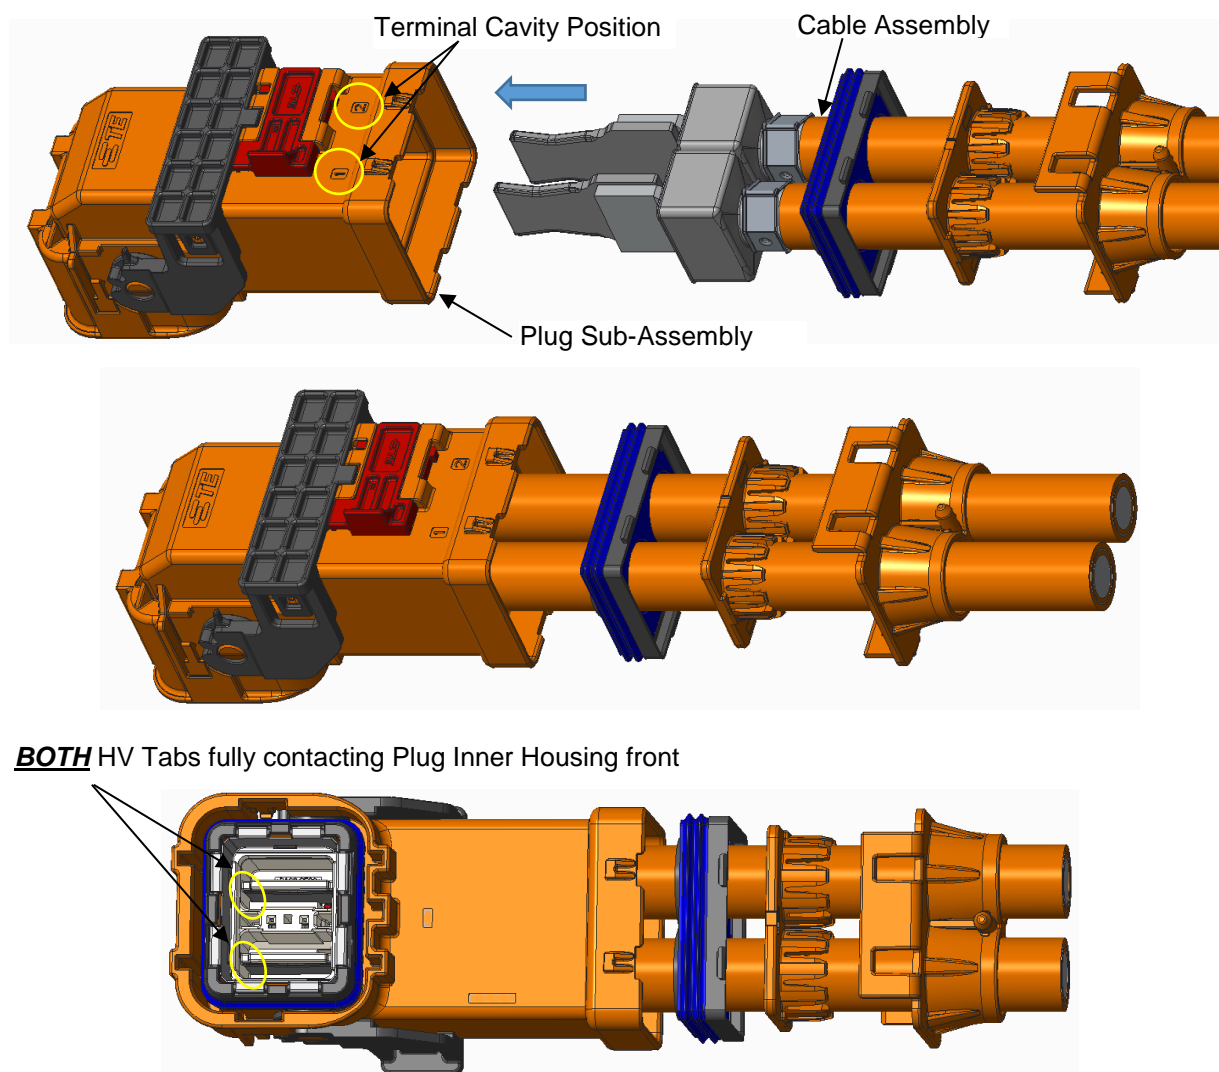
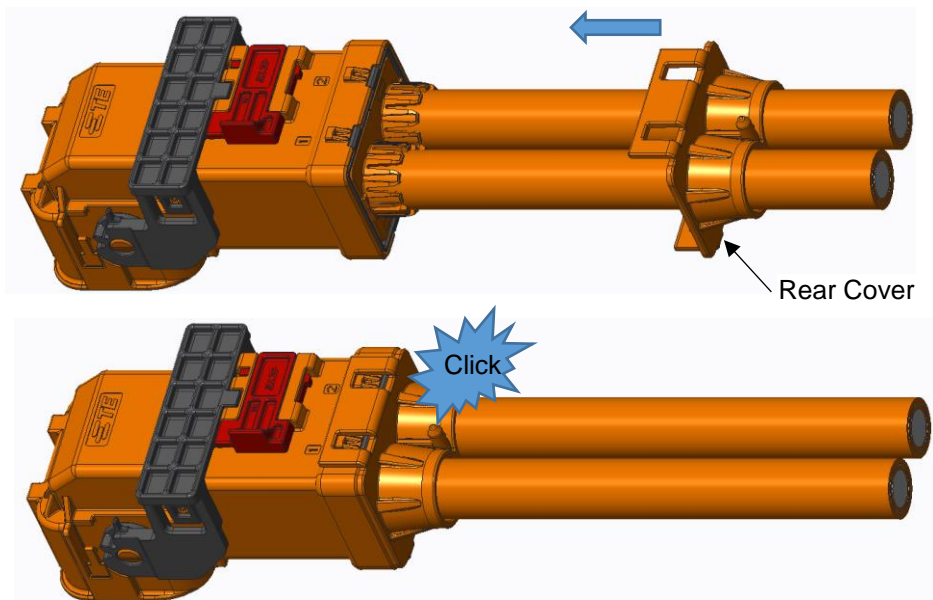

Figure 9: Cable Assembly
Figure 12: Rear Cover Assembly
- 3.6.8:** was Install the cable assembly into the plug sub-assembly in the orientation shown until it is fully locked as shown in Figure 9. Verify that the cable assembly is completely installed by gently pulling back on the cable.
- Figure 9:** removed "Click"
8. Install the cable assembly into the plug sub-assembly in the orientation shown until **BOTH** HV Tabs are fully contacting the Plug Inner Housing front surface as shown in Figure 9.
11. With ***BOTH*** HV Tabs fully contacting the Plug Inner Housing (refer to Figure 9), slide the rear cover forward on the cable and latch to the plug sub-assembly as shown in Figure 12. Verify that all four rear cover latches are fully locked.